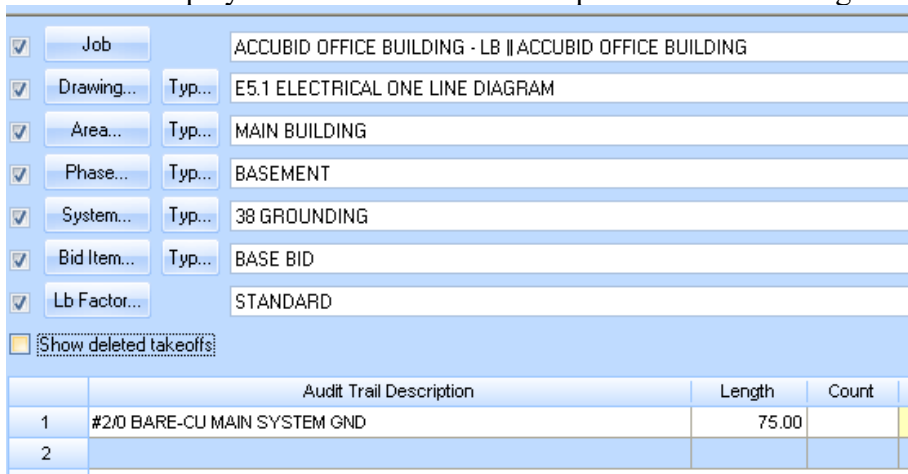

Figure 5
11. Right click in the Item Description list in the Audit Trail Description area and click Finish. The takeoff displays in the Audit Trail Description as shown in Figure 5.